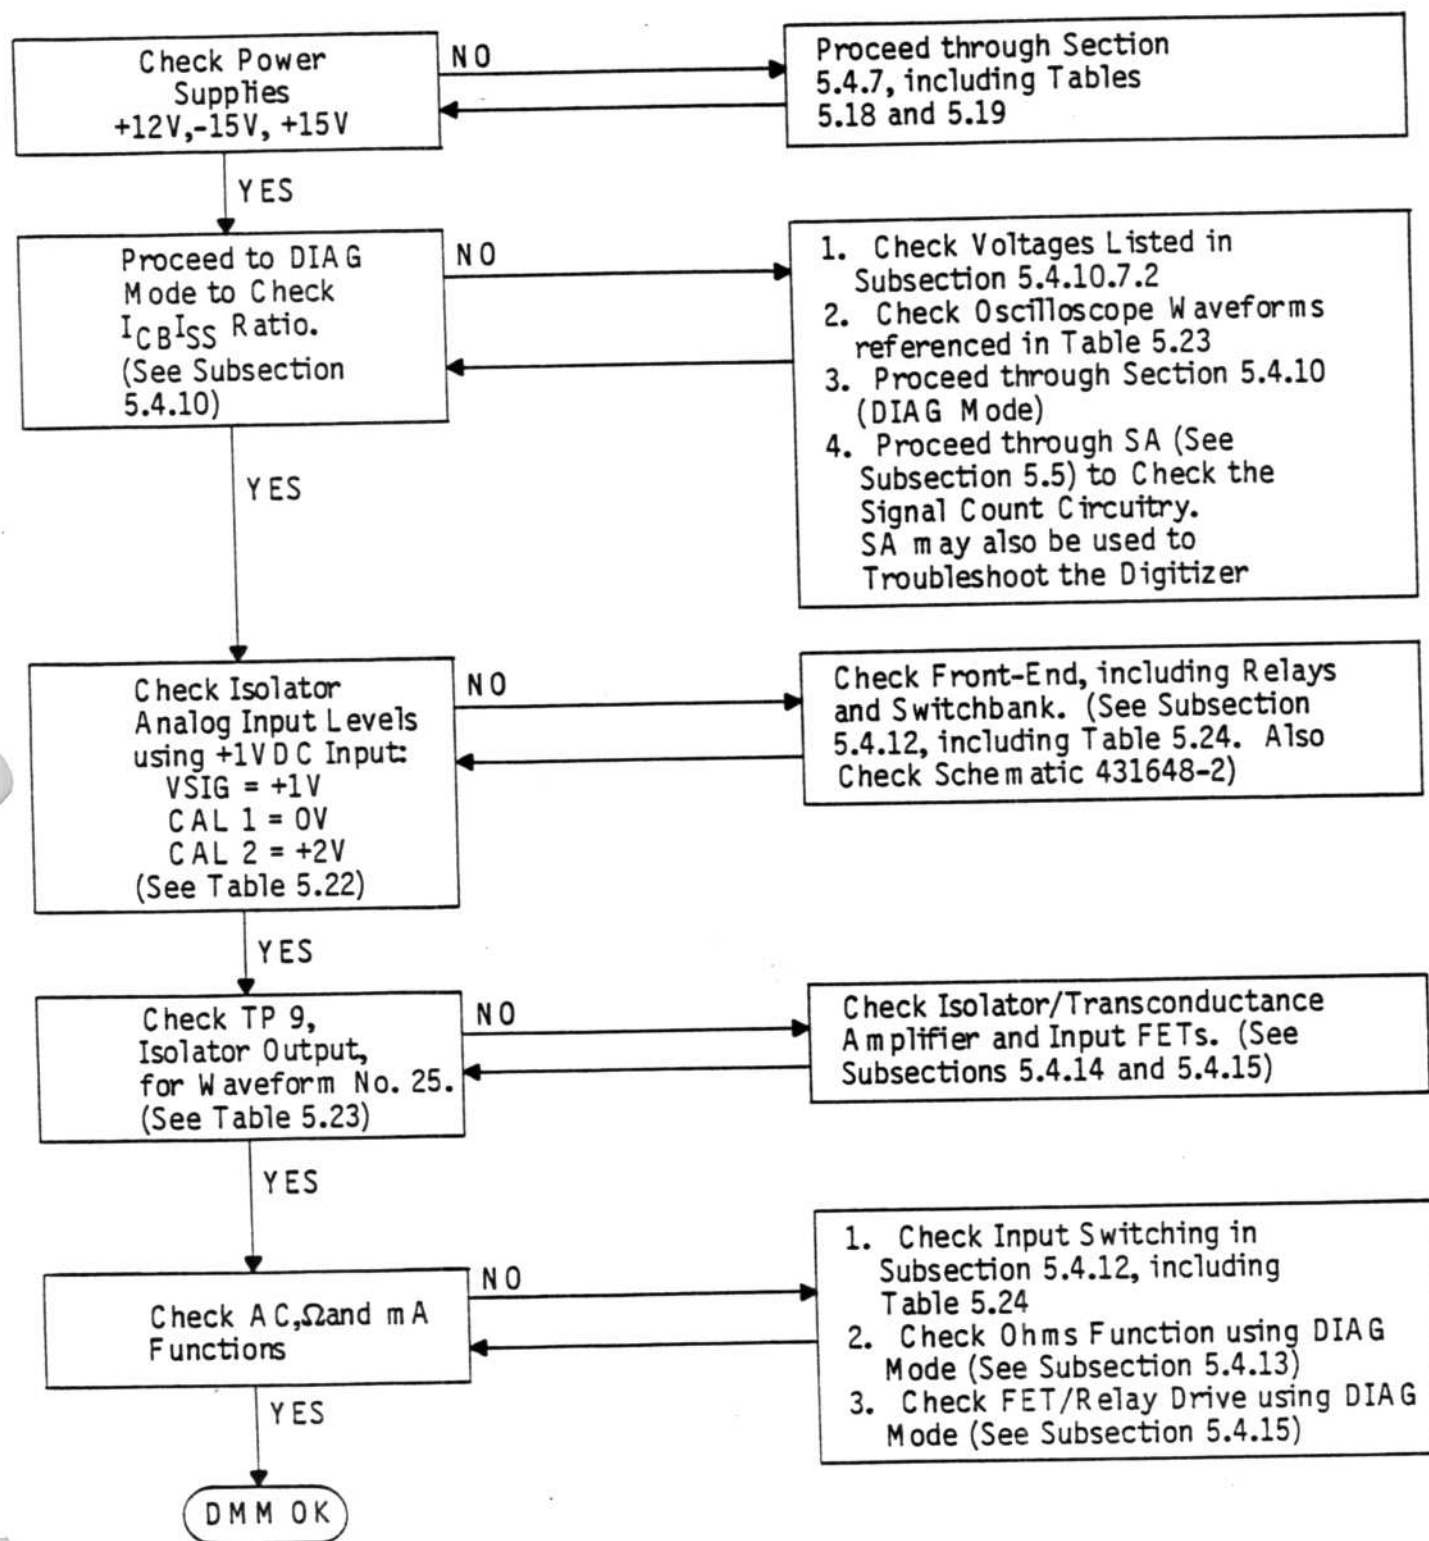

Figure 5.15 - 5001 Analog Troubleshooting Chart
section (5.4.9) describing Analog Troubleshooting and refer to Figure 5.15 on page 5-40.
5.4.9.1 Refer to the Analog Troubleshooting Chart in Figure 5.15 to verify the 5001's performance and provide servicing of the instrument's Analog Section. When using this chart for troubleshooting, evaluation of the check points should progress from one 5001 section to another. This procedure will permit verification of the operating status of entire 5001 sections at one time. In the chart, references made to other tables and figures in the Troubleshooting